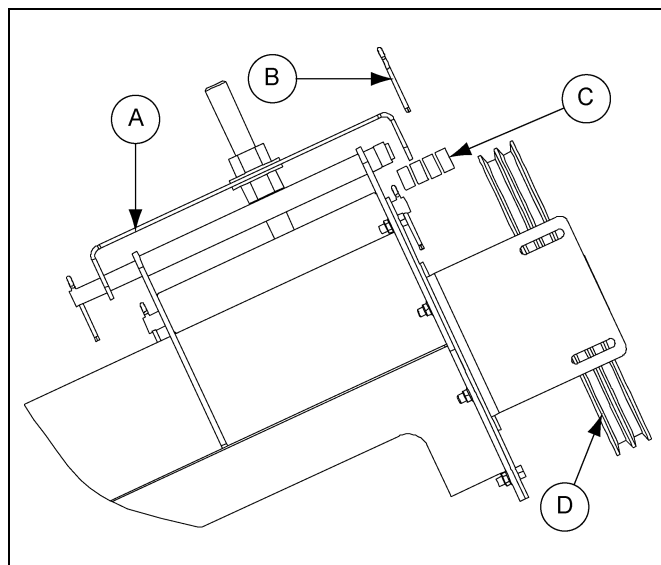

Figure 4M
2. Install pulley onto motor shaft making sure that it is aligned with the flight pulley. It may be necessary to move spacers to gain shaft alignment. (See Figure 4M.)